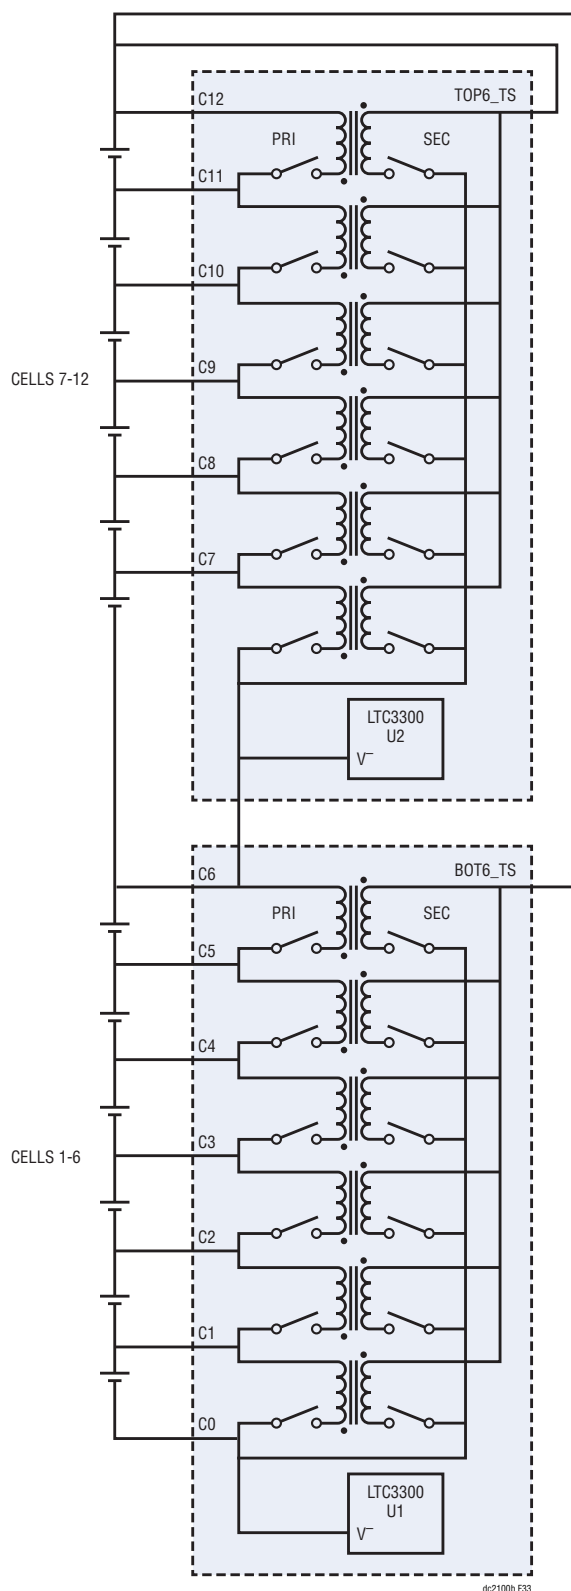
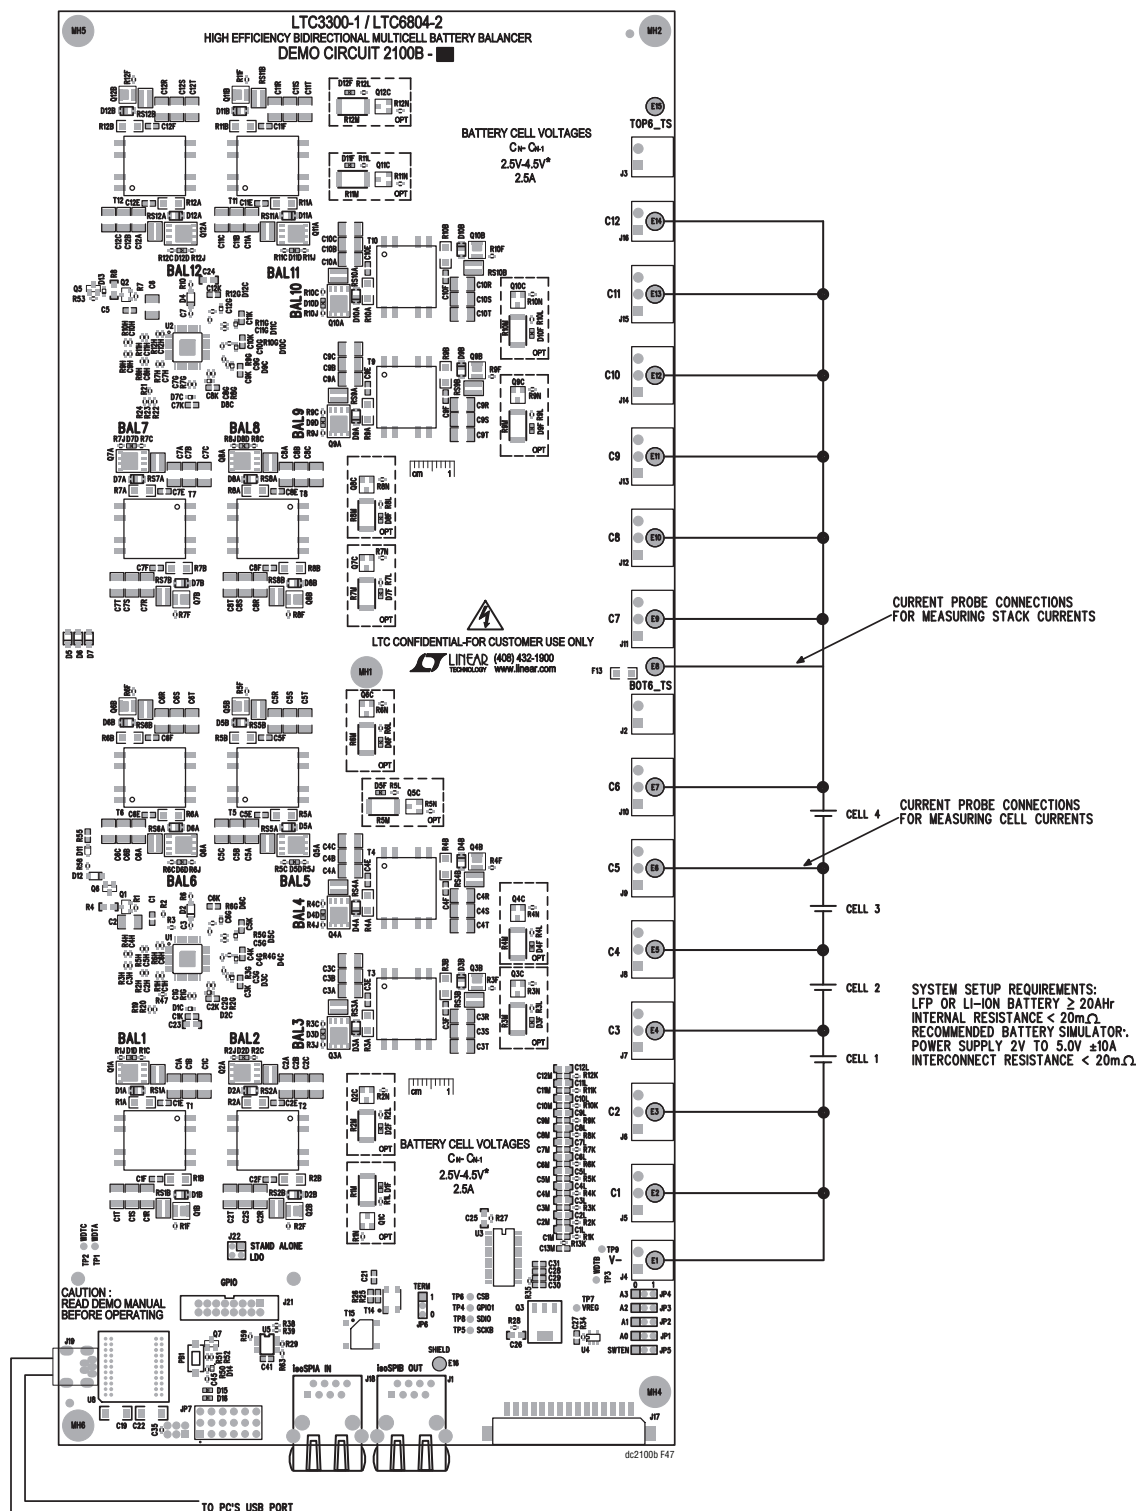

Figure 33. Connection of a DC2100B to a Twelve-Cell Battery Stack
Figure 47. Configuring the Board for 4 Cells
When balancing fewer than twelve cells, one of the set-up configurations shown in Figure 47 through Figure 54 must be employed to ensure an absent cell location is not interpreted as an undervoltage fault by the GUI. For cases with more than seven cells, but fewer than twelve cells, there is a bias towards placing more (or the same number of) cells on the top LTC3300-1 than on the bottom LTC3300-1. To understand this allocation scheme, consider the case of a 12-cell balancer in Figure 33. During balancing, charge is exchanged between individual cells through the primary of a flyback converter to a stack of the same cells through the converter secondary. Within a group of six converters controlled by a single LTC3300, the secondary of the converters are all in parallel. For the lower six converters, the secondary is connected between the bottom of the stack and positive end of cell 12. Thus, during balancing, charge is exchanged between one (or more) of cells 1-6 and the entire stack of 12 cells. However, for the upper six converters the secondary return is connected to C6. Consequently, for the top six cells, balancing exchanges charge between one or more of the top cells and a stack composed of only the top six cells. This constraint drives the system designer towards putting as many cells as possible on the top LTC3300 to maximize the stack size seen by the upper converters. At the same time, the LTC3300 requires at least 9V between C6 and V^- for proper operation. Practically speaking, this sets a three-cell minimum for each LTC3300.
5. GRAPH VIEW WINDOW – FIGURE 33